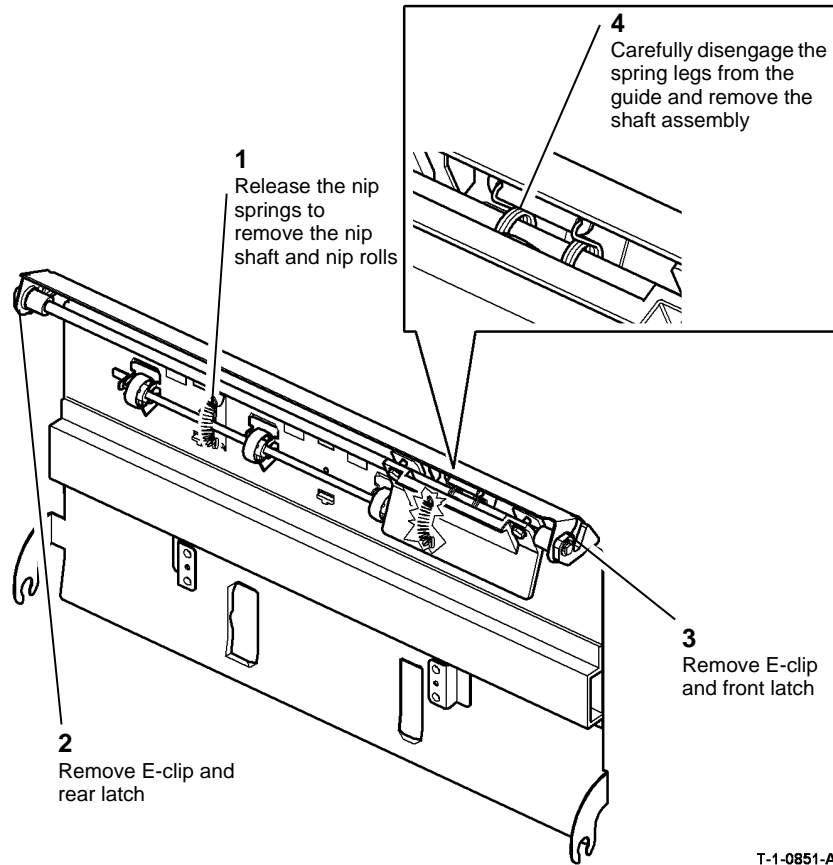

Figure 4 Paper guide dismantling
9. **Figure 4**, remove the components from the BM paper guide assembly.